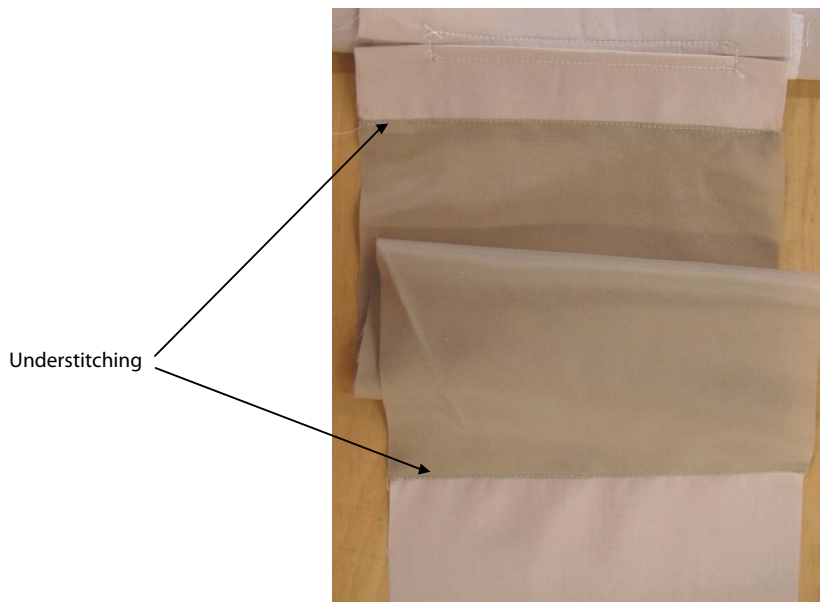

Figure 32
8. Attach the pocket bag to the bottom jet using a 1cm seam and then **understitch** to keep the seam flat (see Figure 32).